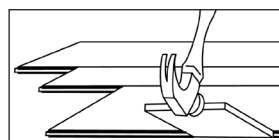

Figure 11
- It may be necessary to align the product with a cut-off piece of scrap as shown in (Figure 11 - Keep scrap angle low to avoid edge damage).